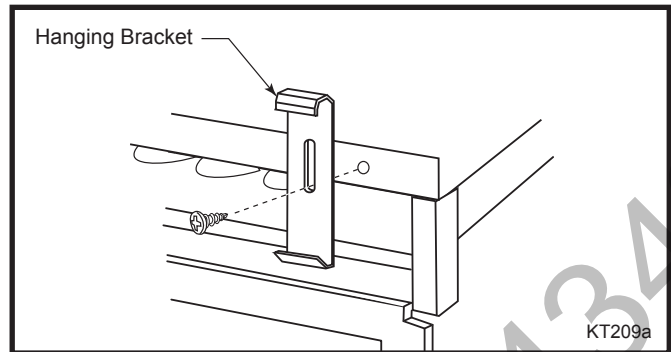

Fig. 52 Hanging bracket alignment.
2. Install the hanging brackets. (Fig. 52)